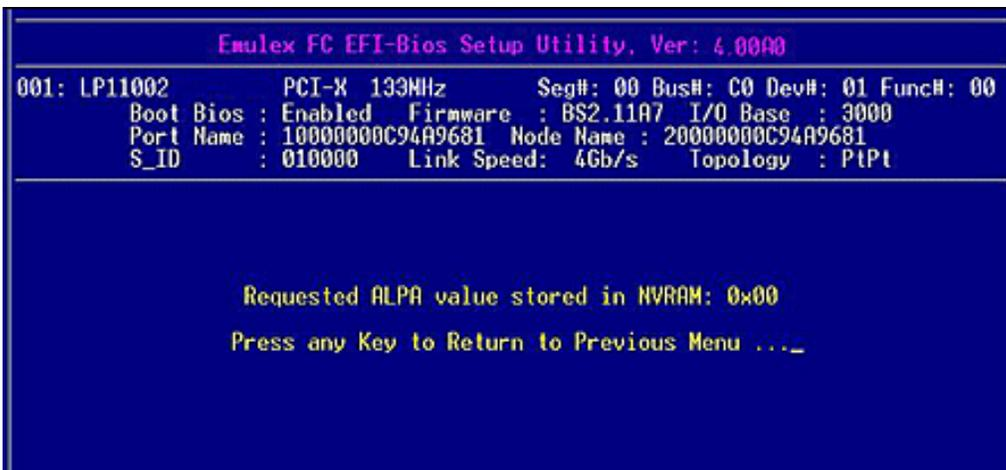

Figure 30: Default ALPA Setup screen
1. On the Adapter Configuration menu, select **1. Default ALPA of this adapter** and press **<Enter>**. A screen similar to Figure 30 is displayed.